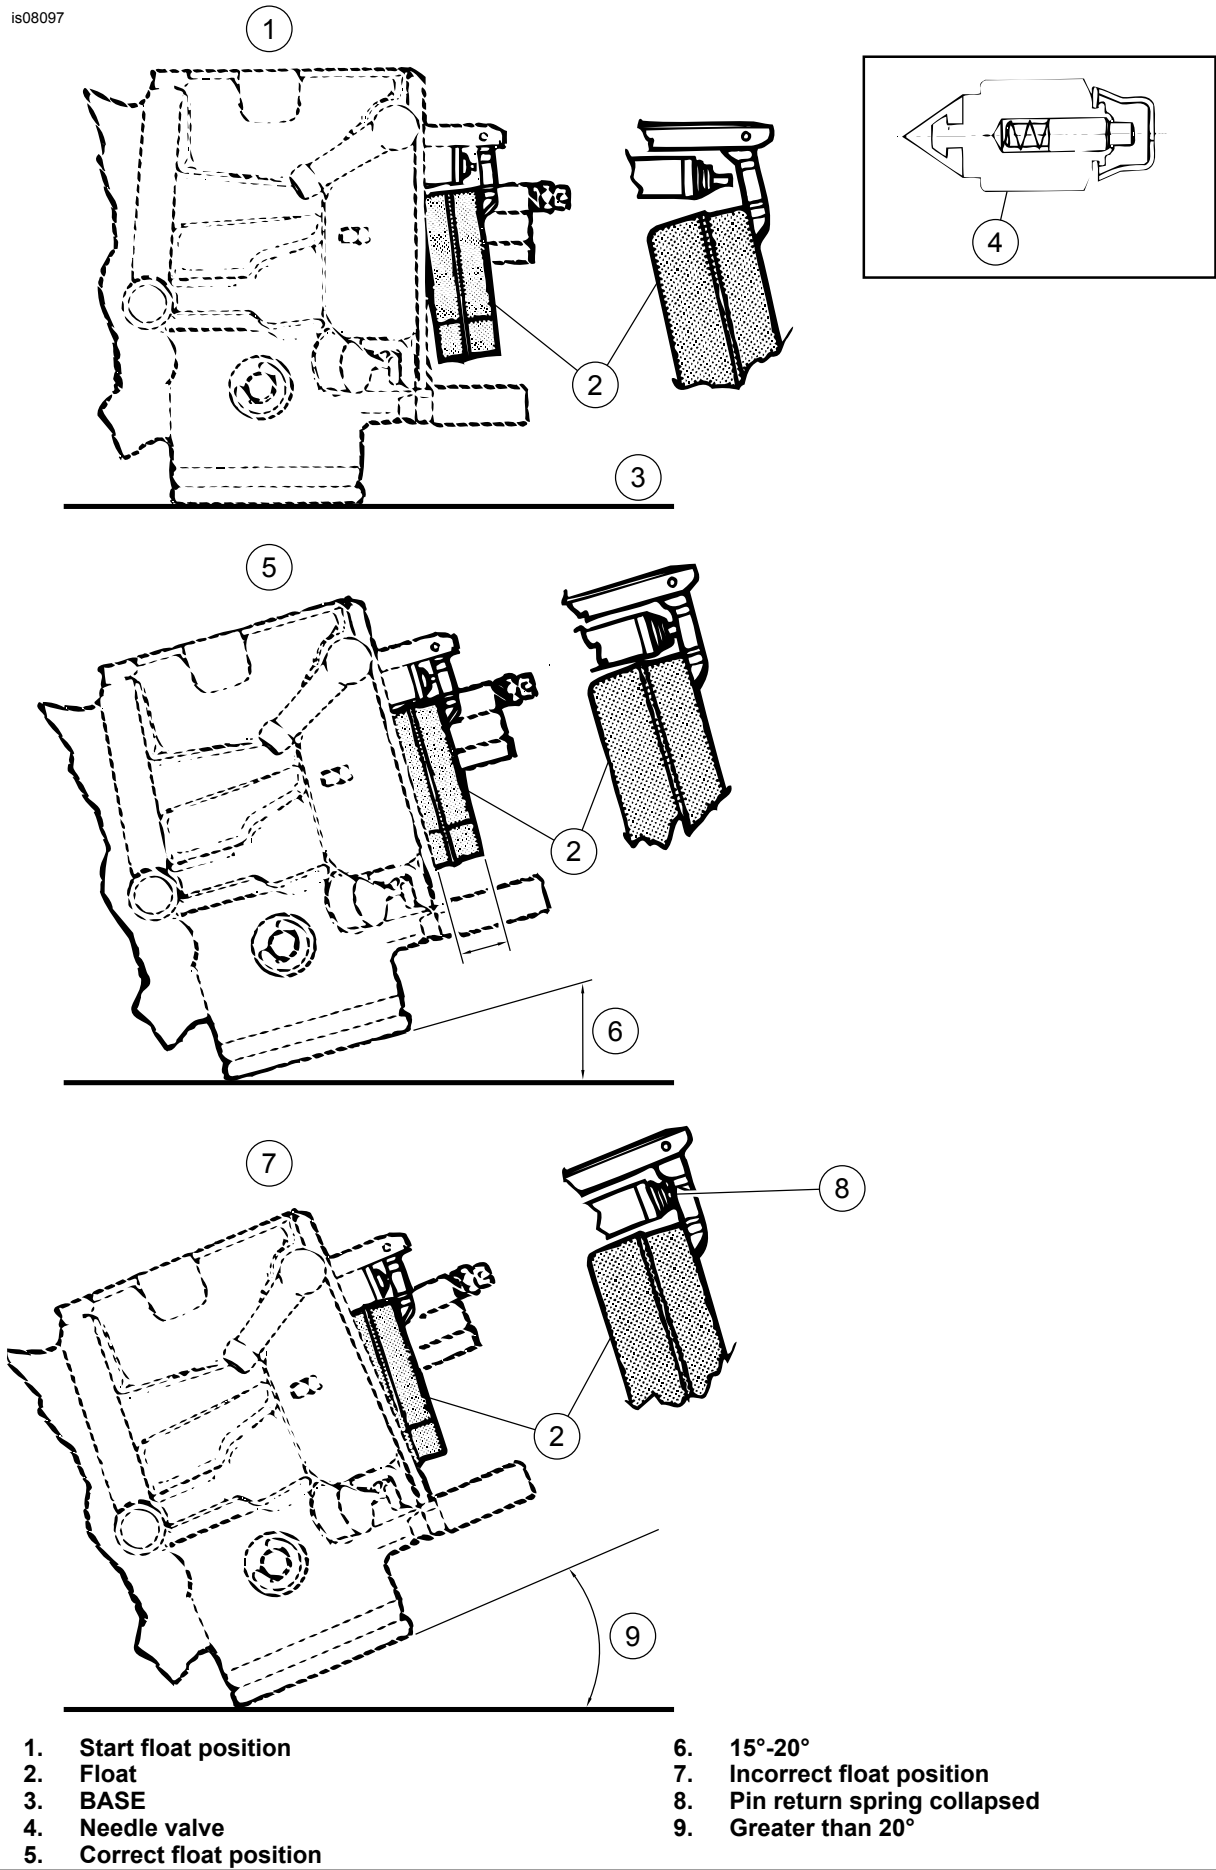

Figure 3. Float Adjustment - Pre-CV Carburetor (1976-1989)
2. Install the inlet valve (21) and clip (22) on the float (23). Secure the float (23) to the carburetor using pin (5) and screw (6).
3. See Figure 3. Place carburetor on a flat, clean surface on engine manifold side. This is the "base". Tilt carburetor counterclockwise 15" to 20" from base until float comes to rest.